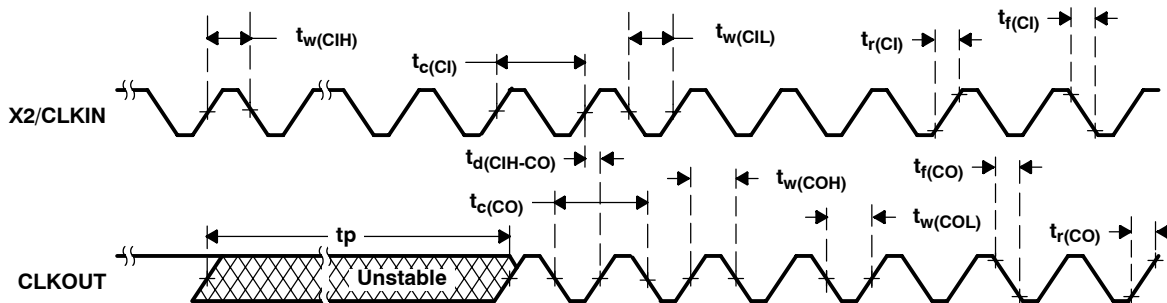

Figure 4. External Multiply-by-One Clock Timing
**switching characteristics over recommended operating conditions [ $H = 0.5t_{c(CO)}$ ] (see Figure 2 and Figure 4, and the recommended operating conditions table)**
**timing requirements (see Figure 4)**